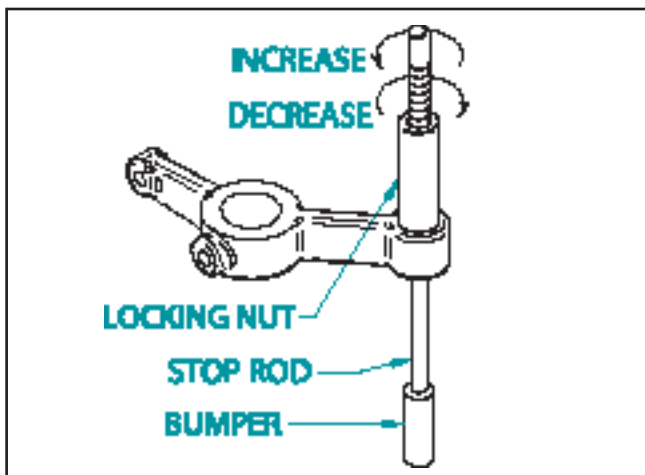

Figure 4
Pocket size may be adjusted higher or lower to accommodate various dough sizes and rounding consistency. This will require experimenting to obtain the correct pocket height for various products and doughy. See adjustments on Page 5, Item 1, Fig. 4.
Achieving the best results with your dough will require some experimenting with the pocket settings and rounding action. See Adjustments Pg. 5 Item 1, Fig. 4
1. Your new DoughXpress Divider/Rounder comes equipped with an "Expandable Pocket" design. Experimentation will be required to determine the correct pocket height for each size dough ball. To increase the pocket height, loosen the locking nut by turning counter clockwise. Turn the stop rod clockwise to decrease pocket height (for smaller rolls) and counter clockwise to increase pocket height (for larger rolls). Retighten locking nut before rounding by turning clockwise. See Fig. 4.